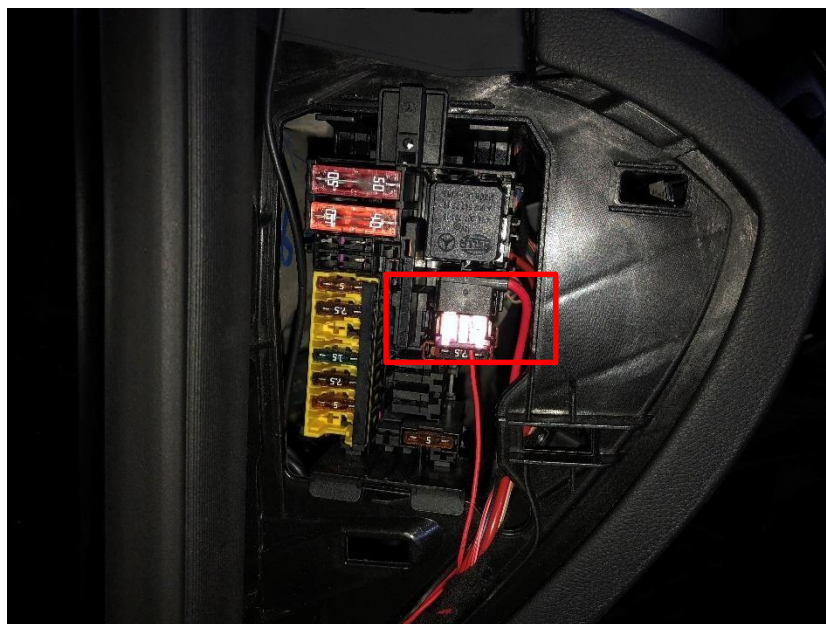

Fig. 19
1. Install the power cord of the host to the fuse box beside the instrument panel. (Fig.19)